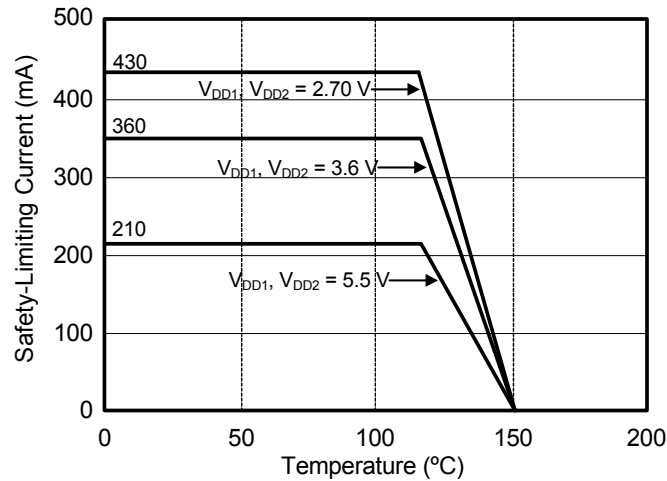

Figure 3. (Si844x, QSOP-16) Thermal Derating Curve, Dependence of Safety Limiting Values with Case Temperature per DIN EN 60747-5-2
- Maximum value allowed in the event of a failure; also see the thermal derating curve in Figures 3 and 4.